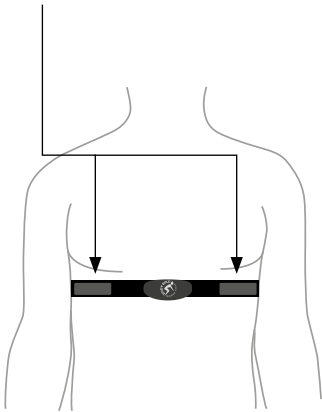

Figure 35
1) Put on your heart rate transmitter, see figure 35. The belt should be worn tight without causing discomfort. The electrodes must be moist and be placed just below the chest muscles.